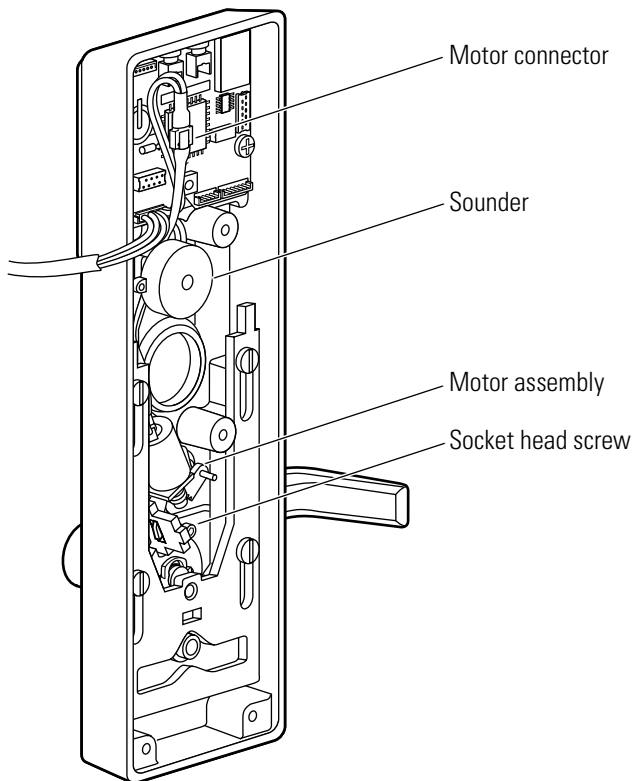

Figure 10.6 Removing the motor assembly
2. Disconnect the motor connector from the primary harness. See Figure 10.6.